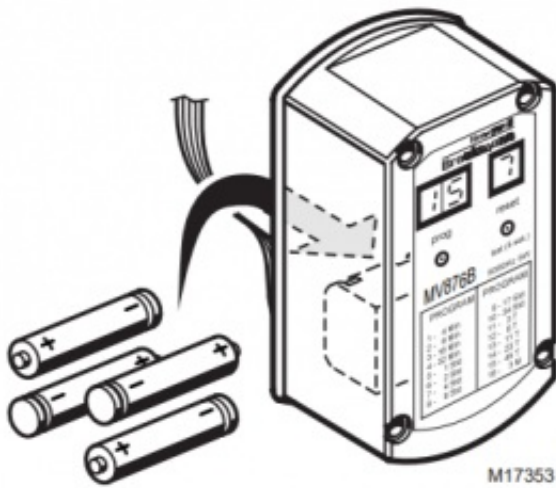

Fig. 12. Installing batteries in the MV876.
3. Insert four AA alkaline batteries. See Fig. 12.